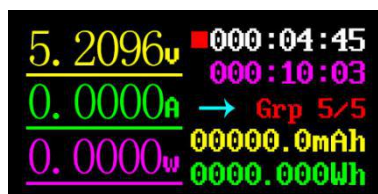

Figure 3
2、 Capacity / power consumption observation page (see Figure 3)